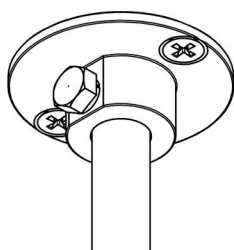

FIG. 7 - INSERT CABLE BASE INTO CEILING
5. PUSH CABLE BASE INTO HOLE IN CEILING (SEE FIG. 7).